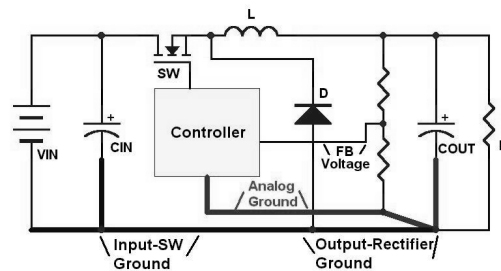

Figure 6. The grounding arrangement of PWM buck topology
3. control stage ground, which is shown in figure 6 below.[1]